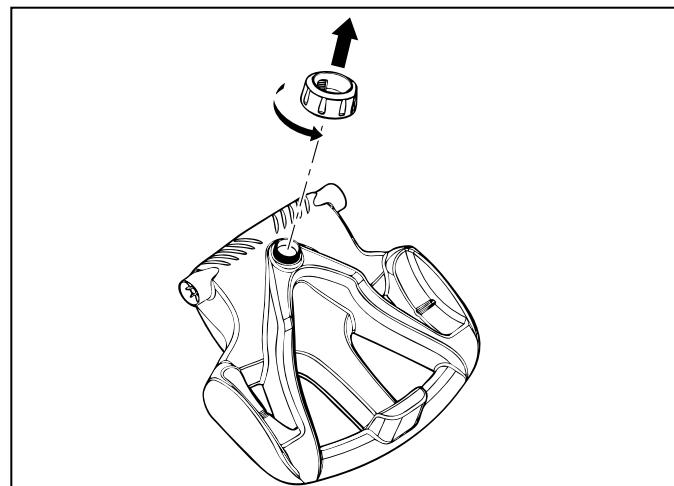

Figure 2. Remove handnut from Base Unit
1. Unscrew the handnut from the base unit (Figure 2).